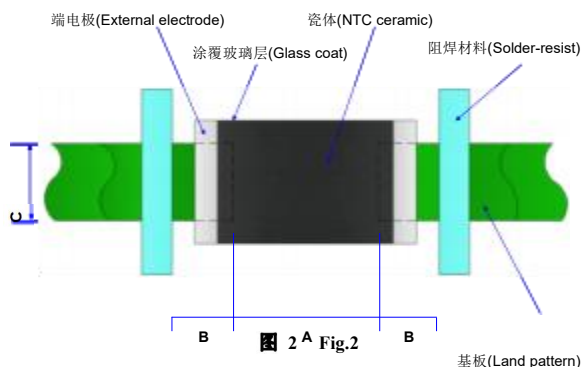

图 2 A Fig.2
- PCB 焊盘：见图 2 和表 1
- Recommended PCB land pattern for reflow soldering: See Fig.2 and Table 1